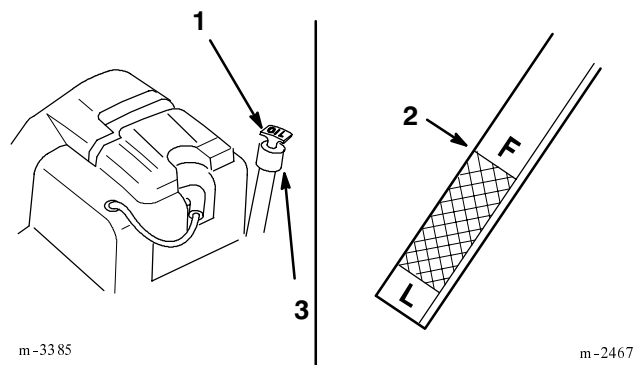

Figure 20
3. Clean around the oil dipstick (Fig. 20) so dirt cannot fall into the filler hole and damage the engine.
4. Pull the oil dipstick out and wipe the metal end clean (Fig. 20).
5. Push the oil dipstick fully into the filler tube (Fig. 20). Pull the dipstick out and look at the metal end. If oil level is low, slowly pour only enough oil into the filler tube to raise the level to the “FULL” mark.
6. Slowly pour approximately 80% of the specified amount of oil into the filler tube (Fig. 20). Now check the oil level; refer to Checking Oil Level, page 22. Slowly add additional oil to bring to "FULL" mark on dipstick.